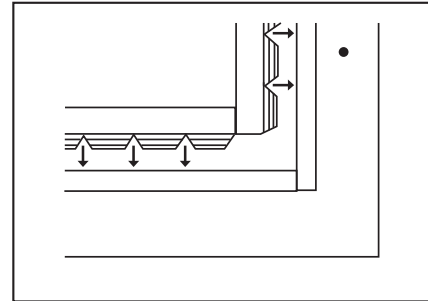

Fig. 1a
1. The Mirror Assembly (A) comes with the Mirror (B) in place for security during shipping. It is held in place by pieces of the Glass Retainer (E). If you need to remove the Glass Retainer (E) prior to applying finish to your Beveled Mirror (if you purchased the AUF version), place the Mirror Assembly (A) face-down on a clean protected surface and remove the Glass Retainer (E). Apply finish. After the finish is dry, replace the Glass Retainer pieces (E) as shown in Figure 1a. **CAUTION: DO NOT LEAN ON THE MIRROR WHEN YOU WORK ON THE FRAME.**